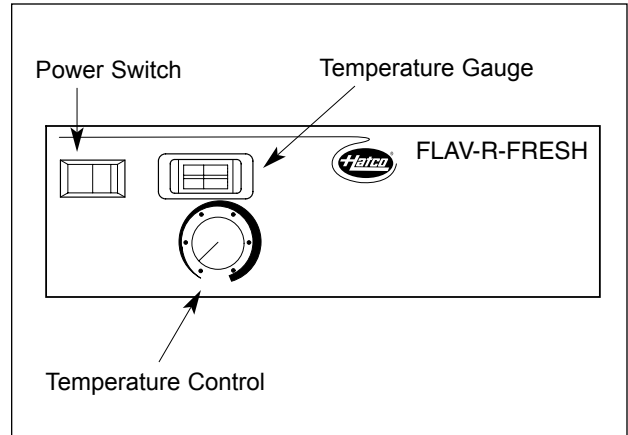

Figure 6. Control Panel FDW-1-MN
2. Turn the Power Switch to the ON position. See Figures 6 & 7.